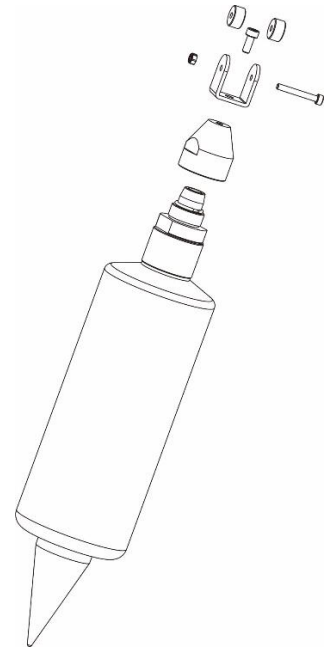

Fig.6
8.3.2 The operation of the U-shaped ring of the plastic Auto-Fall-Off sensing weight same as 8.3.1. The plastic sensing weight must be filled with the material at 0.9~1.0kg before use. When connecting, the head of the plastic weight is aligned with the socket and inserted to the end completely, try to pull the sensing weight to confirm that the installation is correct (Fig 6)